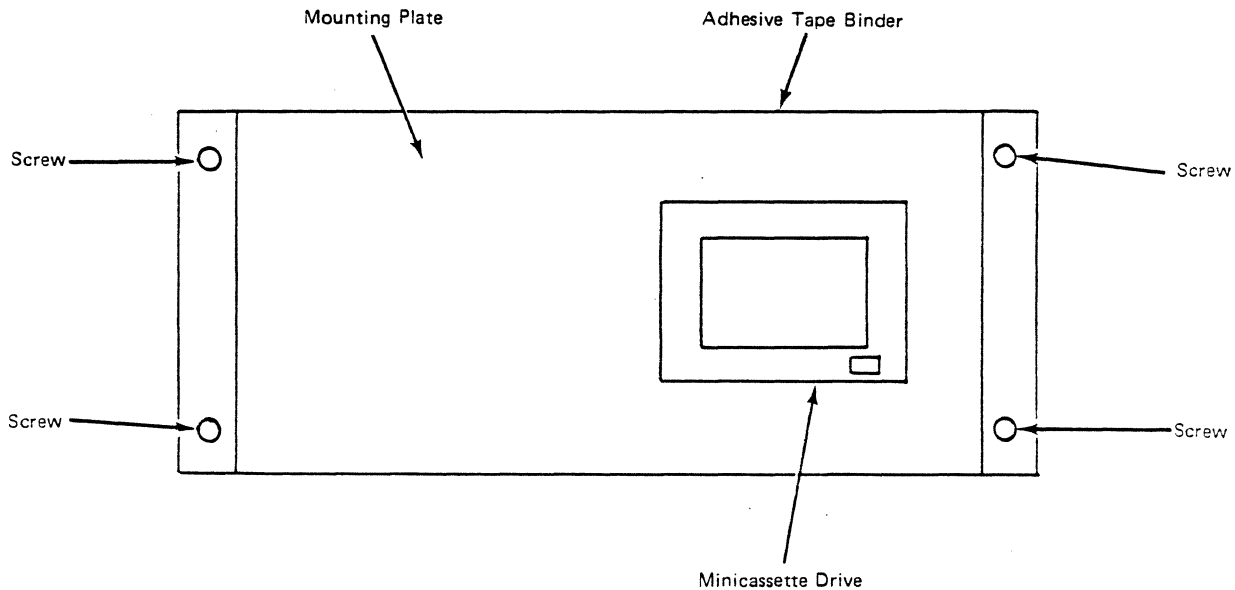

Figure 7-11. Minicassette Drive Subassembly, Front View
- c. Remove the four screws located at each corner of the mounting plate (Figure 7-11). Gently apply pressure at the inside of the mounting plate to release the plate from the adhesive tape binder located along the edge of the plate.
- c. Replace the four screws located at each corner of the plate (Figure 7-11).